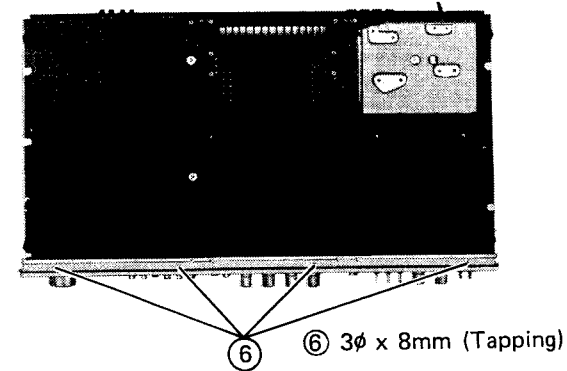

Figure 9.
2. Remove 4 screws ⑥. See figure 9.